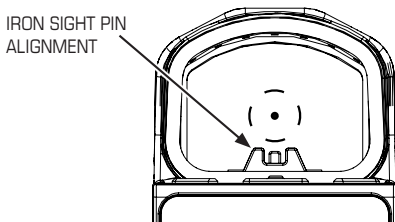

Figure 3.5-3 *RAAM GSS Iron Sights (Rear View)*
- Step 3.)** While maintaining the alignment of the Iron Sights, as described above, aim so that the top of the center pin is aimed at the target (see Figure 3.5-3).